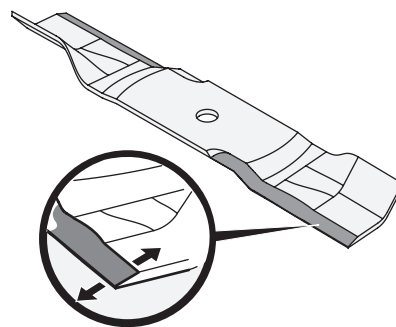

Figure 57
3. To properly sharpen the cutting blades, remove equal amounts of metal from both ends of the blades along the cutting edges, parallel to the trailing edge, at a 25°-30° angle. Always grind each cutting blade edge equally to maintain proper blade balance. See Figure 57.